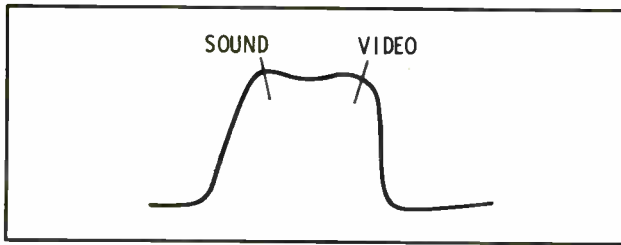

Fig. 2-5. Alignment curve for a color-television tuner.
From the foregoing example, it is apparent that good alignment is essential for color reception. All color-television manufacturers specify that the r-f tuner should be aligned so that both the picture and sound carriers appear on top of a flat (or double-humped) r-f response curve. Your receiver service data is an essential guide in this regard. Fig. 2-4 shows a typical r-f tuner configuration for a color receiver. Note that the alignment curve shown in Fig. 2-5 is relatively flat between the video and the sound carriers. One of the chief requirements for good color reception is that the tuner must provide flat (or double-humped) response curves on all channels.
- Short circuit. For example, C210 in Fig. 2-4 could be shorted. Try injecting a modulated i-f signal at the plate of the r-f amplifier. Also, C205 or C209 in Fig. 2-5 might be shorted. Make a voltage test.